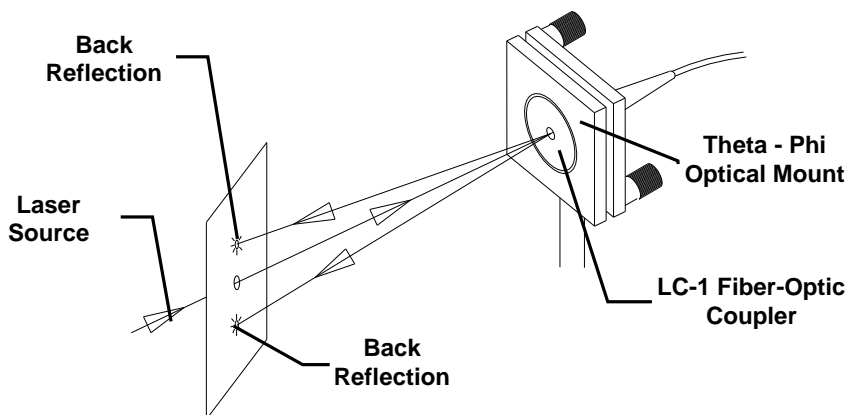

Figure 3.3: Aligning the LC-1 Fiber-Optic Input Coupler
- 3 Two back reflections from the LC-1 coupler should be visible near the laser's output aperture. They can also be seen by placing a white card (with a hole in the center) in the beam path as shown in Figure 3.3. Adjust the optical mount until the reflections symmetrically straddle the input beam.